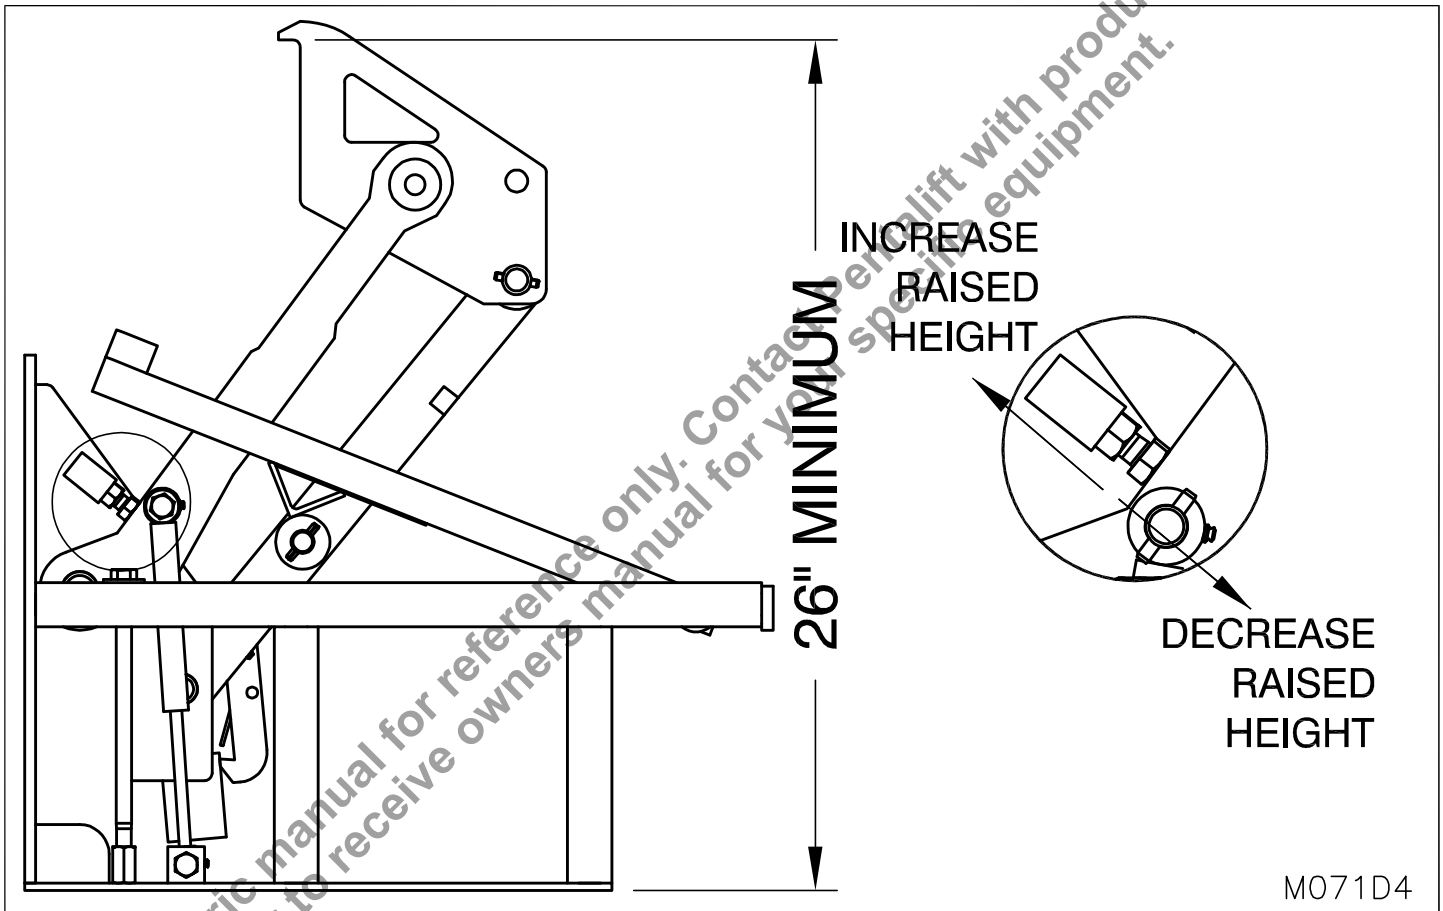

Figure 31: Raised Height Adjustment
**IF RAISED HEIGHT IS TOO LOW:** Loosen stop block locking nut. Turn adjustment bolt **in** to **increase** raised height. When proper height is achieved, tighten lock nut against the adjustable stop block. (See "Figure 31: Raised Height Adjustment" on page 25)
**IF RAISED HEIGHT IS TOO HIGH:** Loosen stop block locking nut. Turn adjustment bolt **out** to **decrease** raised height. When proper height is achieved, tighten lock nut against the adjustable stop block. (See "Figure 31: Raised Height Adjustment" on page 25)